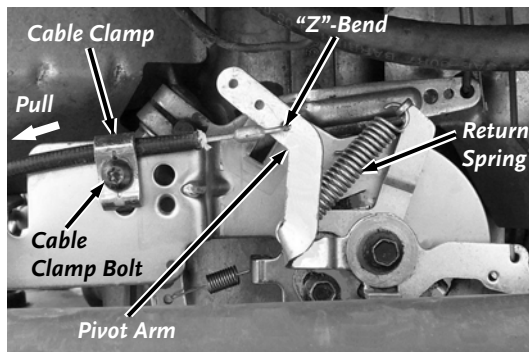

Figure 10
3. Insert the "Z"-Bend of the Cable end into the bottom hole in the Throttle Pivot Arm on the front of the Engine (**Figure 10**).